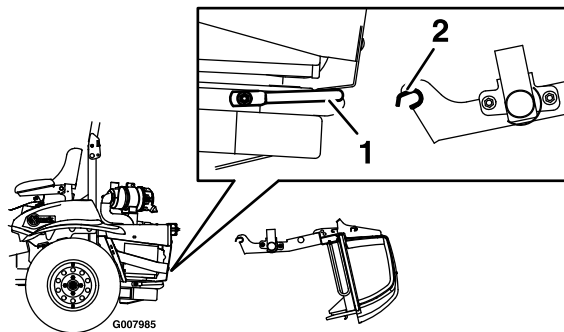

Figure 8
3. Lay the hood assembly down as shown in Figure 8.
5. Pick up the frame legs and hook the notch onto the lower mount bar (see Figure 8).